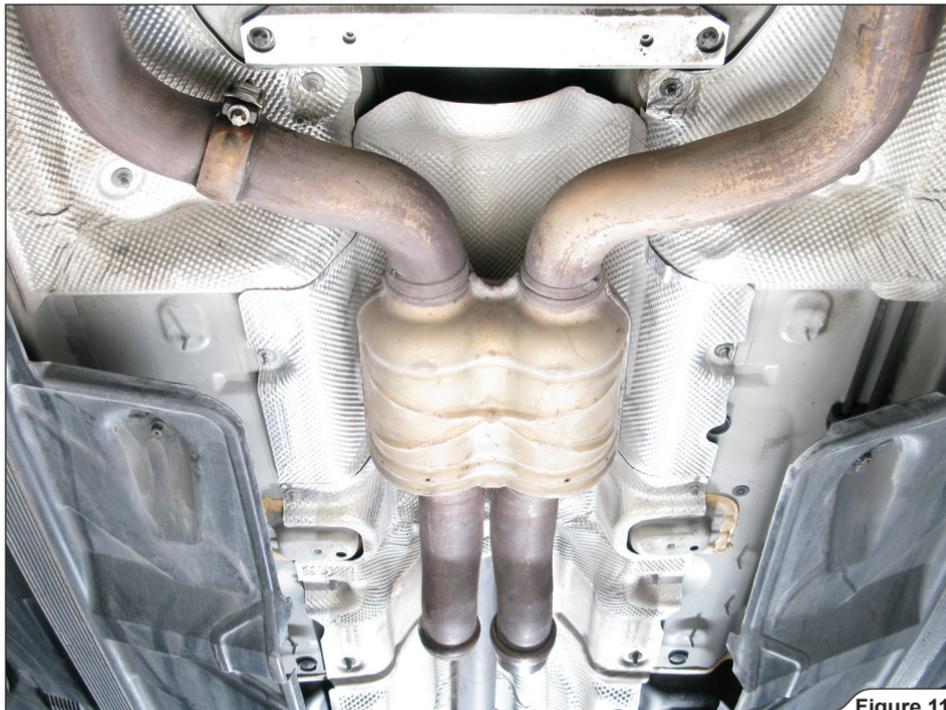

Figure 11
10. **For Evolution only:** unscrew the marked spherical clamp and remove the front pipes off the vehicle (**Figure 11**).